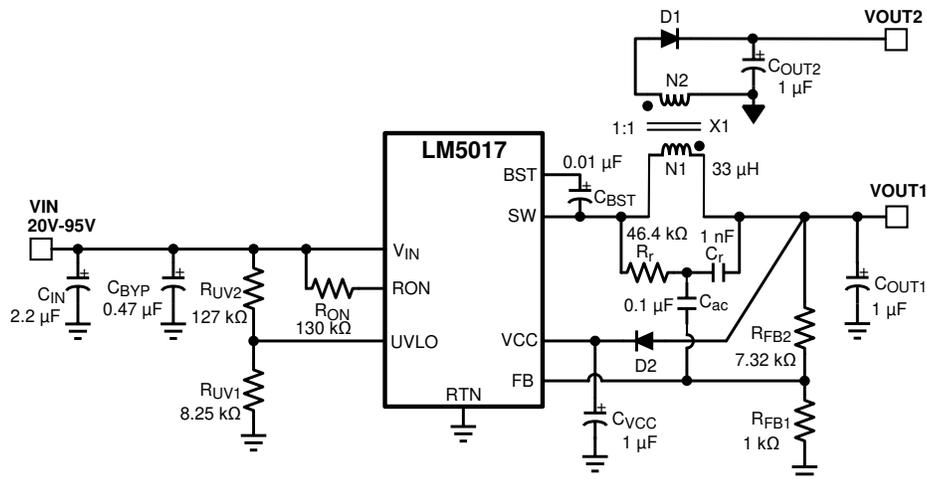

Figure 8-5. Typical Isolated Application Schematic
An isolated supply using the LM5017 is shown in Figure 8-5. Inductor (L) in a typical buck circuit is replaced with a coupled inductor (X1). A diode (D1) is used to rectify the voltage on a secondary output. The nominal voltage at the secondary output (V_{OUT2}) is given by Equation 20.